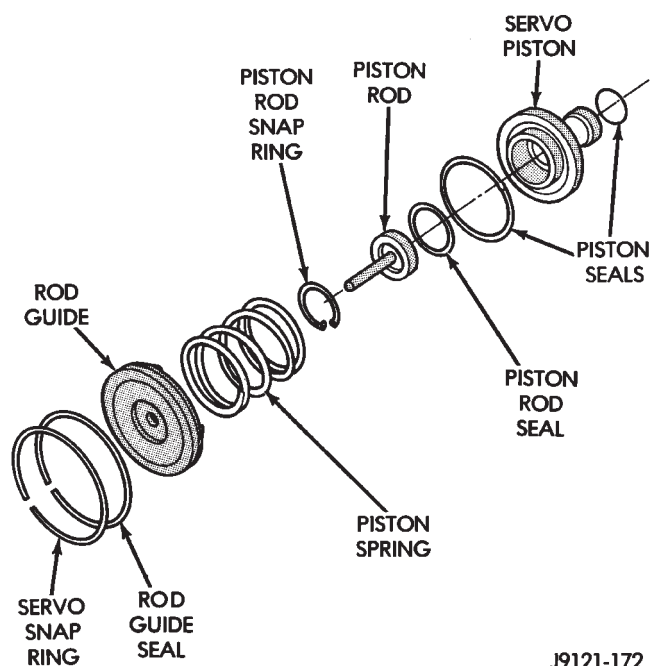

Fig. 96 Front Servo Components
FRONT SERVO DISASSEMBLY (FIG. 96)
- (1) Lubricate servo parts with transmission fluid.
- (2) Install new O-ring on servo piston rod.
- (3) Install new seal on piston rod guide and install new seal rings on piston.
- (4) Assemble rod, piston, servo springs and snap ring (Fig. 96).